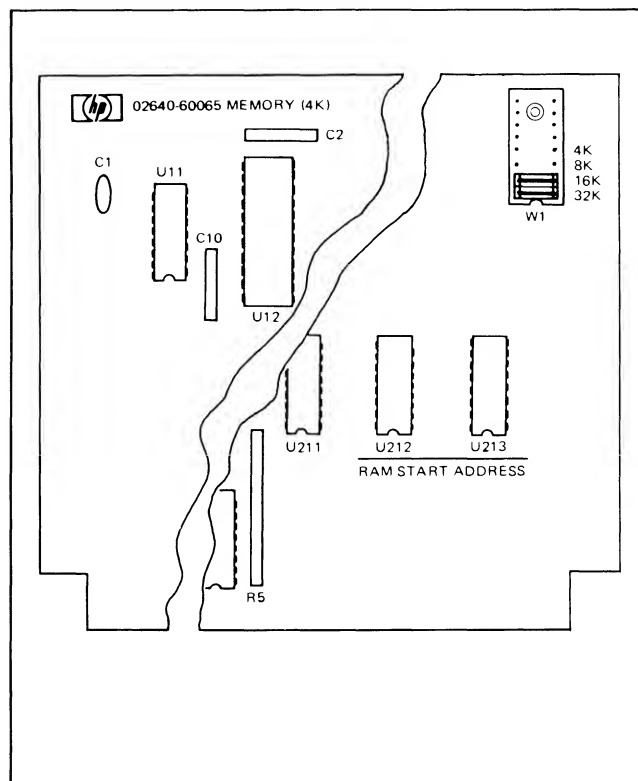

Figure 7-9. 4K Memory PCA Jumper Socket Location
3. ( ) Using figure 7-9 as a guide, locate memory jumpers on 4K Memory PCA.